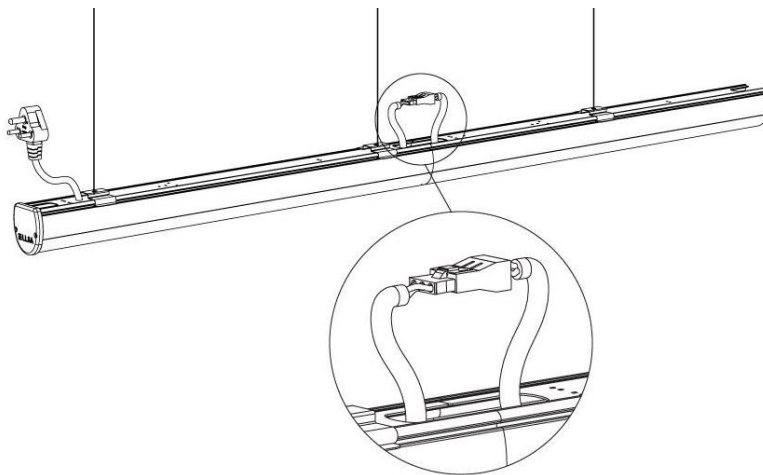

FIG. 3
- Connect the 220V AC connector, above the extrusion. Fig 3